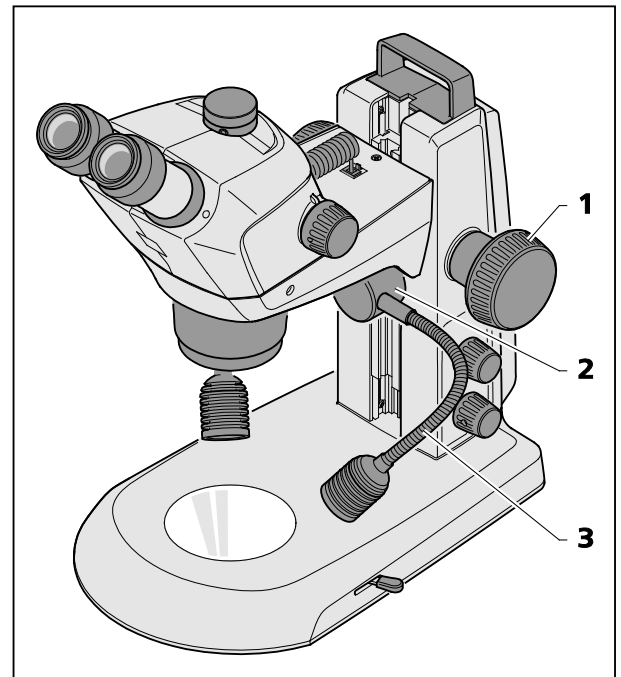

Fig. 22 Double spot illuminator
- Move the microscope body to its uppermost position via the focusing knob (Fig. 22/1). Push double spot illuminator (Fig. 22/2) to the required level within the guide.
- Bend the two goose necks (Fig. 22/3) to adjust the spots so that the specimen is optimally illuminated.